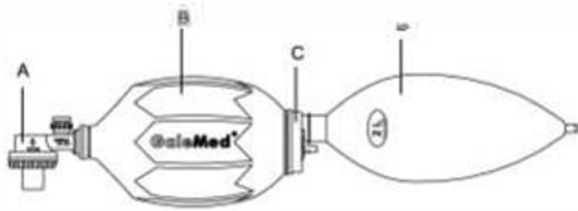

Figure 1. The MR100™ Plus Autoclavable Manual Resuscitator
The MR-100™ Plus Autoclavable Manual Resuscitator consists of four major components (figure 1): non rebreathing valve assembly (A), silicone bag (B), intake valve (C), and reservoir (D), Part D should be removed if supplemental oxygen is not to be supplied from an external gas source.